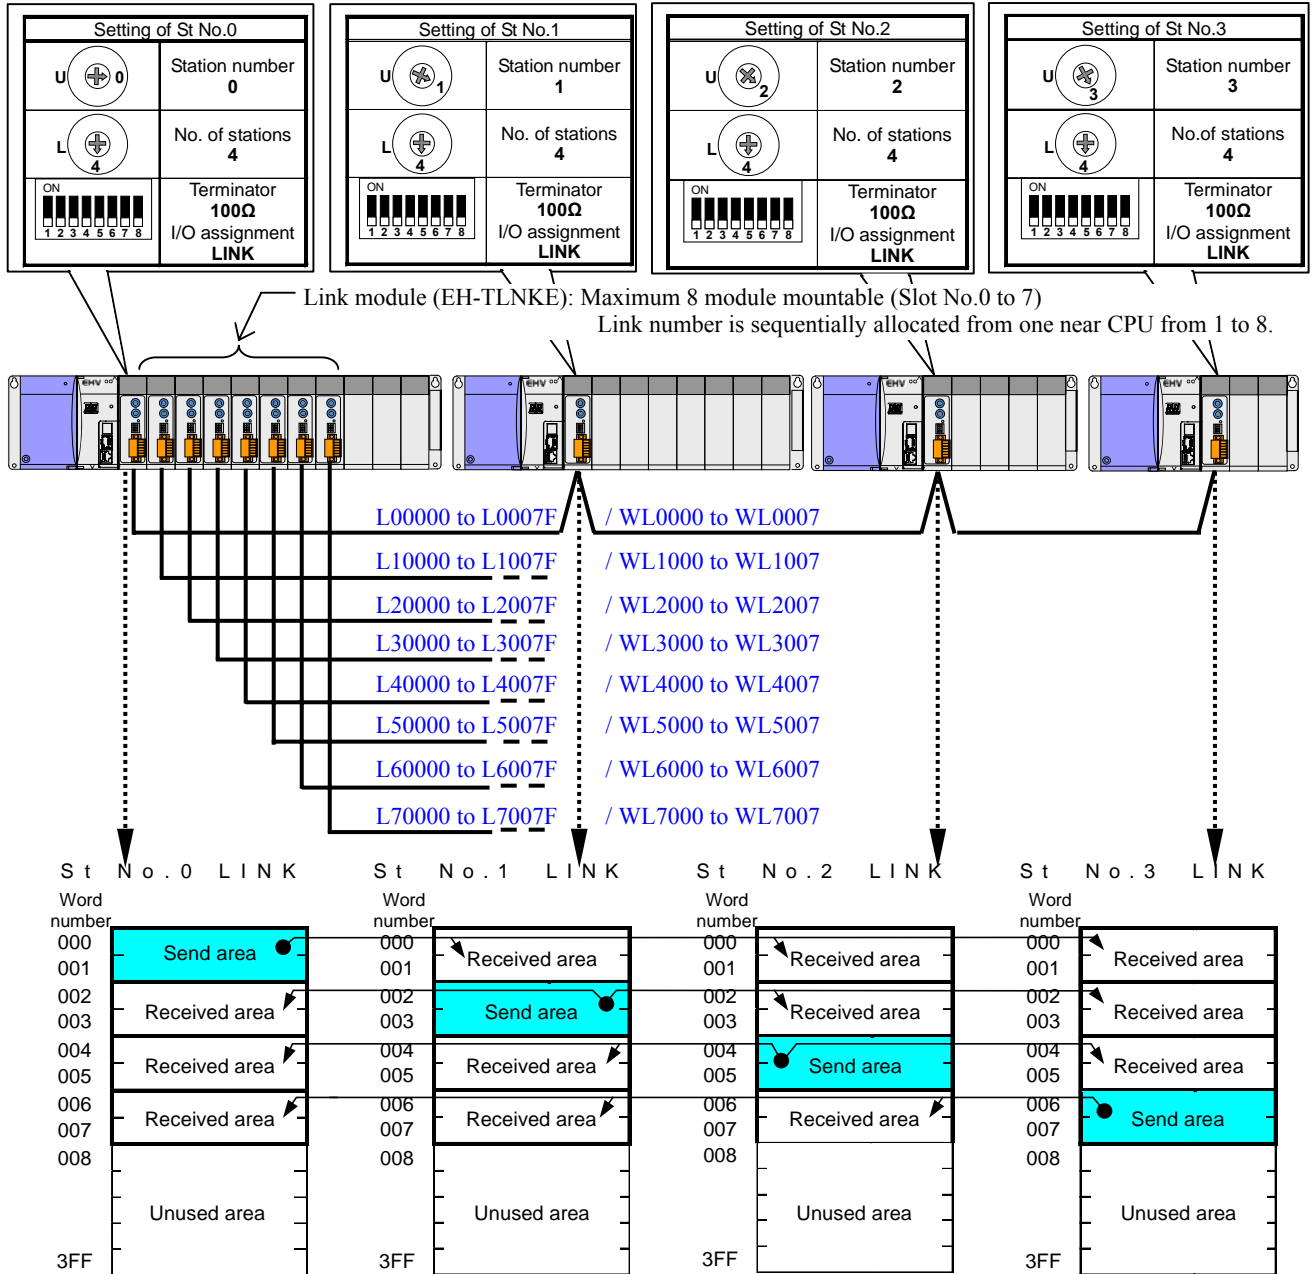

Figure 4.3.2 System configuration example-2 (I/O assignment of "LINK")
Figure 4.3.2 is the system configuration example that compact link modules were set to compatible mode and I/O assignment "LINK". Refer to section 3.1 for the setting method of the compatible mode.
- 3) Compatible mode can connect to maximum 8 stations per system. (Figure 4.3.2 is the example that 4 stations were connected.)
- 4) Compact link modules can mount maximum 8 modules per CPU to the base unit depending on combination with CPU. The link modules are assigned No.1 LINK to No.8 LINK in the order that is near to CPU. Refer to section 4.2.1 (1) for the details.